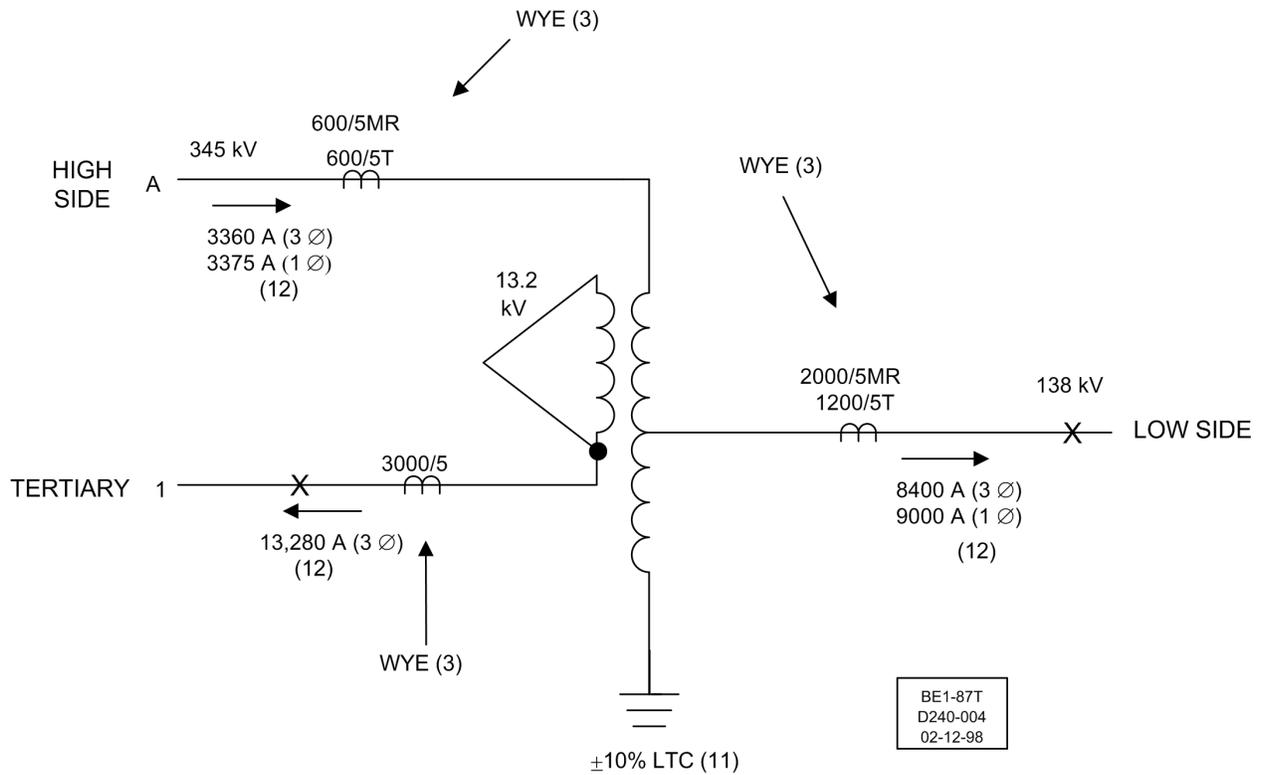

Figure 44. Application Example, Autotransformer with Tertiary Winding
Refer to Figure 44 for a one-line drawing of this example. Refer to Figure 43 for the three-line representation of this transformer.
**Step 12.** Determine the maximum CT secondary fault current for external faults ( $I_{F3}$  for three-phase, and  $I_{FG}$  for line-to-ground). Refer again to Figure 44 for this example. The maximum fault current is recorded for each set of terminals for all combinations of external faults.
Neglecting  $R_R$ , use  $R_L$  from Figure 44:
Neglecting  $R_R$ , use  $R_W$  and  $R_L$  from Figure 44: